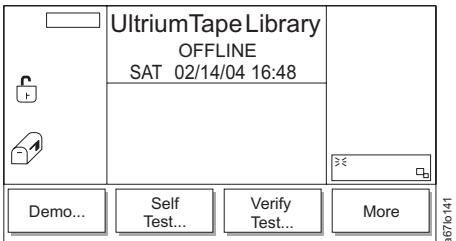

Figure 4-172. Exercise Submenu
3. Press the button below the **Exercise** softkey. The Exercise Submenu displays (see Figure 4-172).